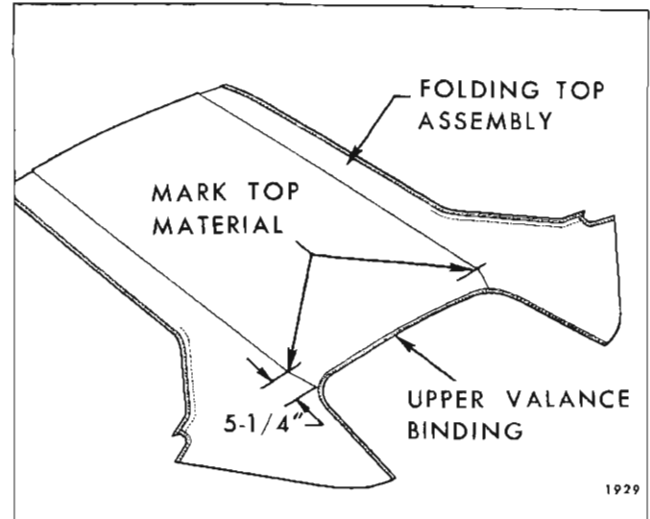

Fig. 1-I-33—Marking Top Material
21. Using a pencil, mark both ends of rear and rear quarter trim sticks on vinyl surface of top material (Fig. 1I31). Reference marks for trim sticks should be transferred to new top material when step 8 of installation procedure is performed.